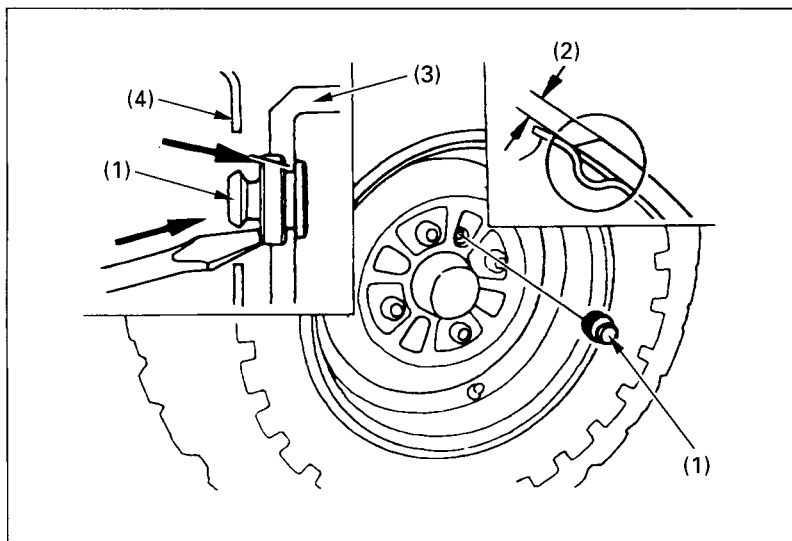
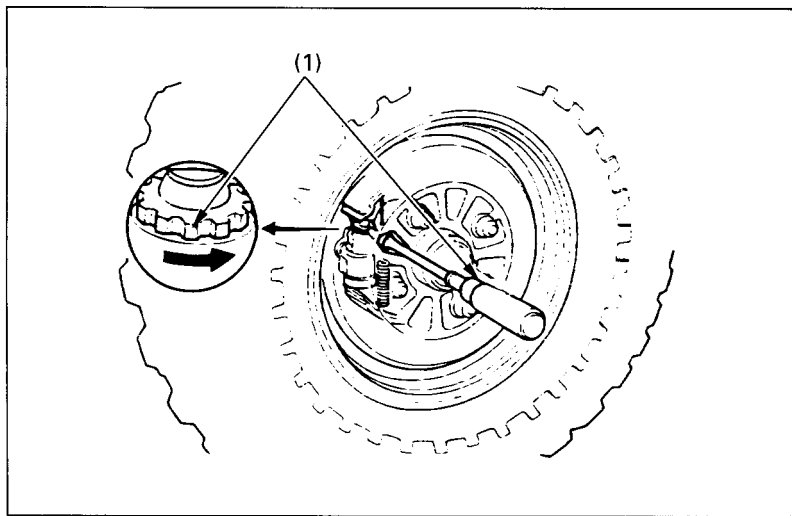

Fig. 4-24
Fig. 4-25
(1) Front brake lever
2. Remove the inspection hole plug (Fig. 4-24) and measure the lining thickness (2) on both front wheels.
3. If the brake lever free play and the brake shoe lining thicknesses are within the recommended limits, reinstall the inspection hole plugs, seating them into the inspection holes as shown in Fig. 4-24.
3. Beginning with either the left or right front wheel, remove the inspection hole plug (Fig. 4-24) and line up the hole with one of the brake adjusters (Fig. 4-25).
4. Using a screwdriver, turn the brake shoe adjuster (1) in the direction of the arrow until the front brake locks.
(1) Brake adjusters
7. Reinstall the inspection hole plug, seating it into the inspection hole as shown in Fig. 4-24.